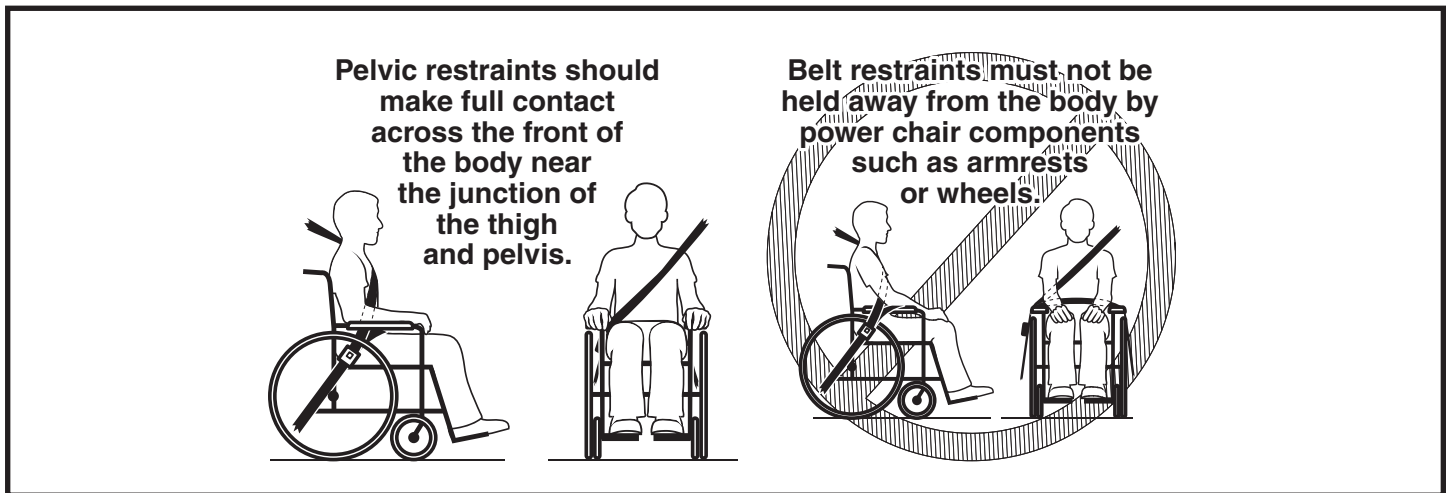

Figure 15. Proper Pelvic Belt Placement
- Some power chair components, like armrests and wheels, can interfere with proper belt fit. It may be necessary to insert the belt between the armrest and the seatback or through openings between the backrest and seat in order to avoid placing the pelvic belt over the armrest. **See figure 15.**